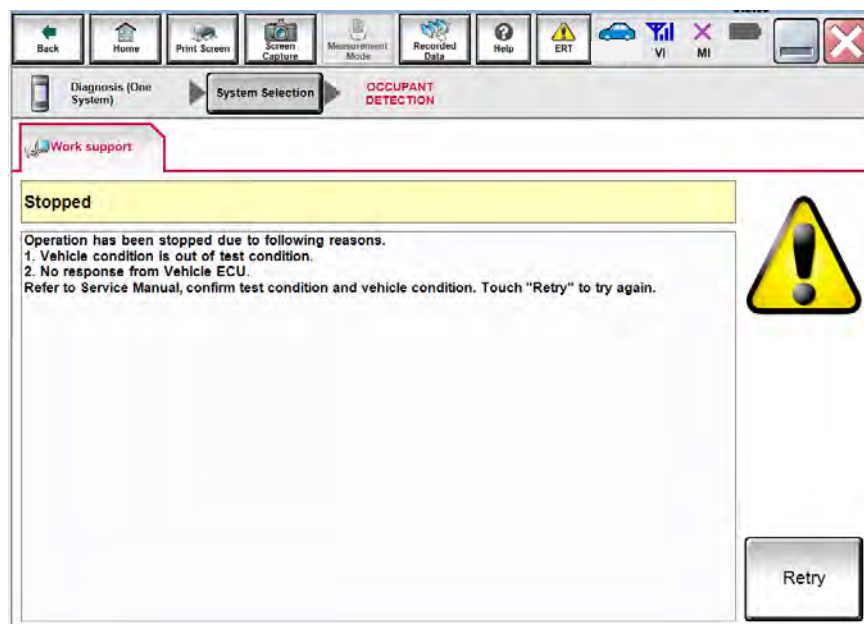

Figure 5A
- After selecting **Start**, if Figure 5A is displayed: